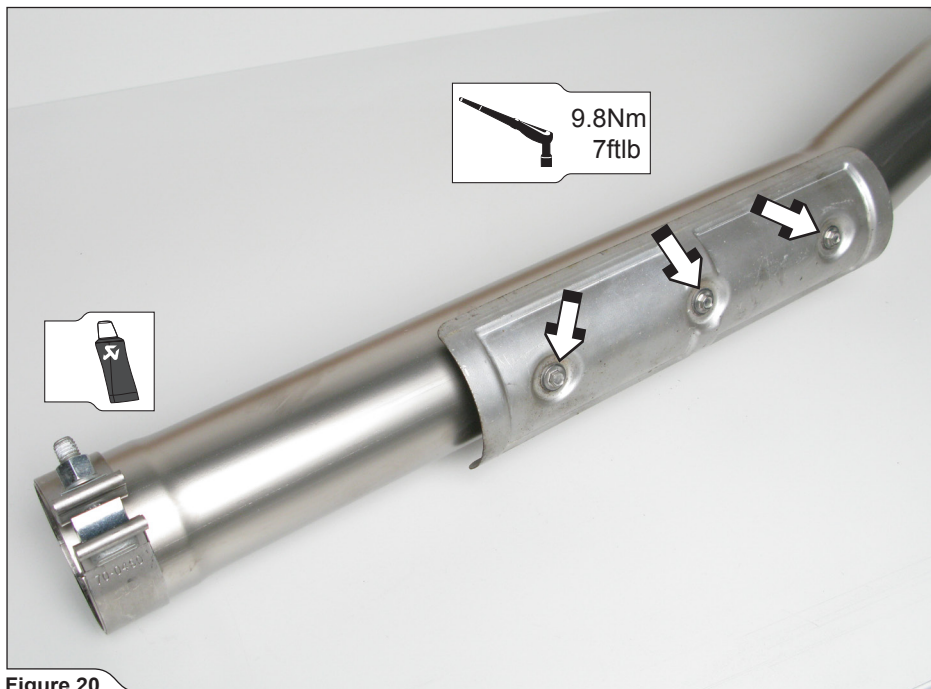

Figure 20
9. **For Evolution only:** tighten the heatshield onto the middle pipe and slide the clamp onto the inlet, as shown (Figure 20).